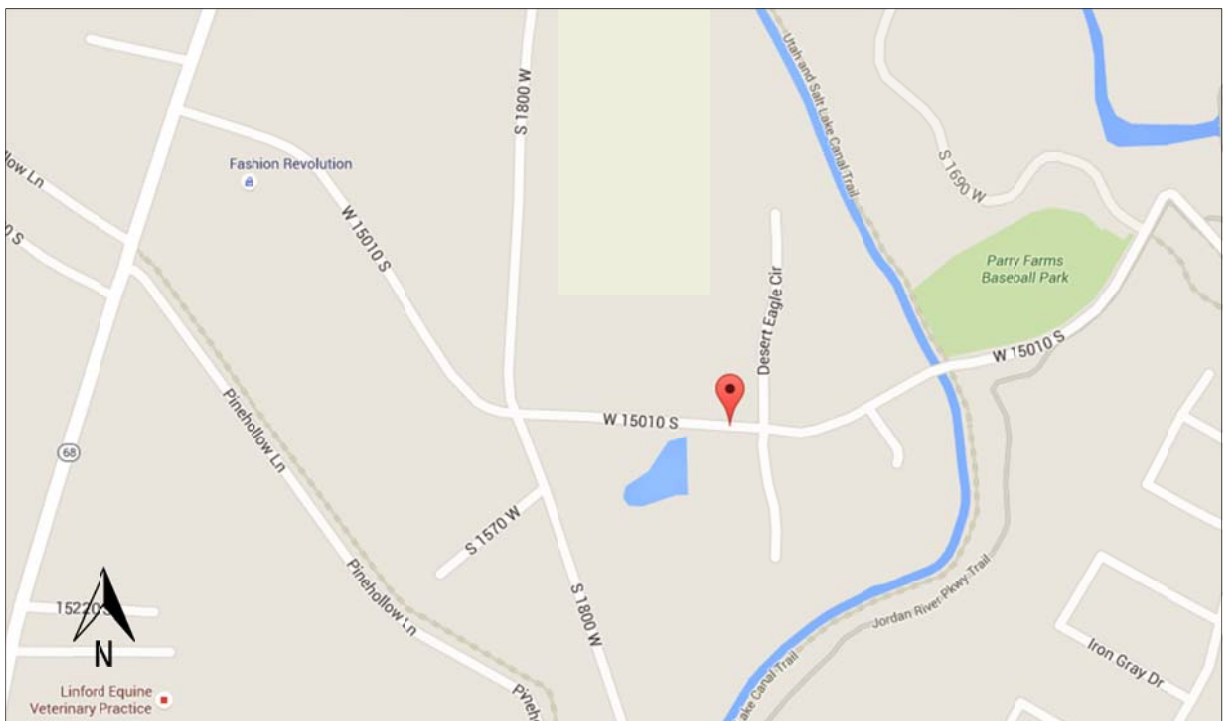

Figure 5: Rock Hallow Drive, also known as 15010 S (maps.google.com 2015).
- Rock Hollow Drive (15010 S) and approaching roads (see Figure 5)